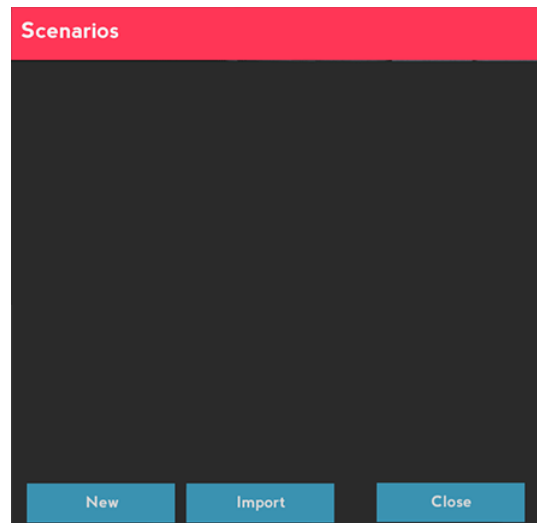

Figure 2. The empty Scenarios screen as it appears when selected from the Main Menu for the first time.
1. Click **Scenarios** on the Main Menu. The Scenarios screen appears (see Figure 2).